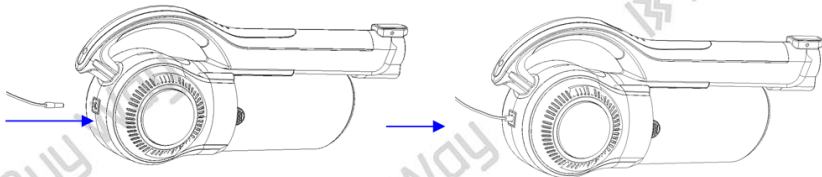
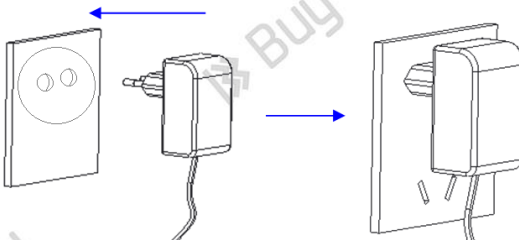

Fig. 13
Fig. 14
2. The charger connection point is on the back top part of the main body of the appliance. Connect your charger (adaptor) to the device (see fig. 13) and then connect the adaptor to the mains (see fig. 14).